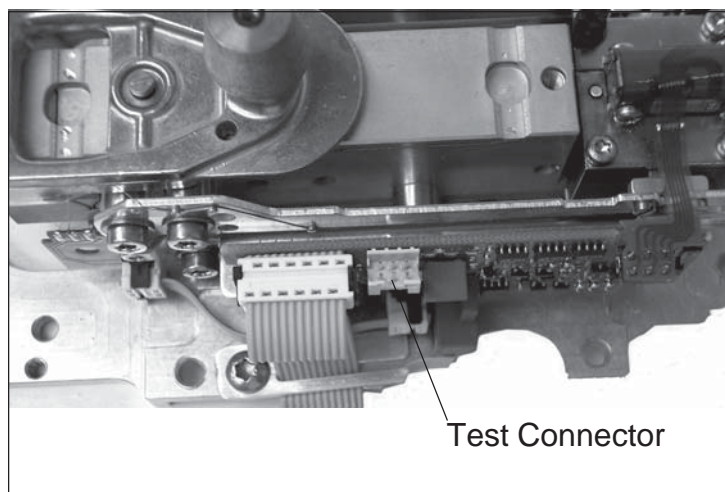
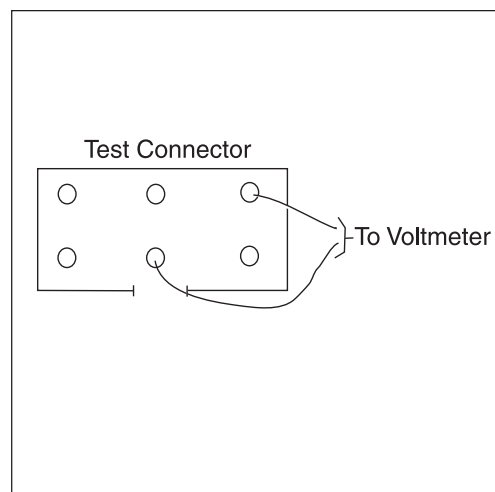

Figure 3-63. Test Connector Location.
Figure 3-64. Area of Detail.
1. Refer to Figure 3-63. Attach a Digital Voltmeter to the pins indicated on the test connector shown in Figure 3-64.